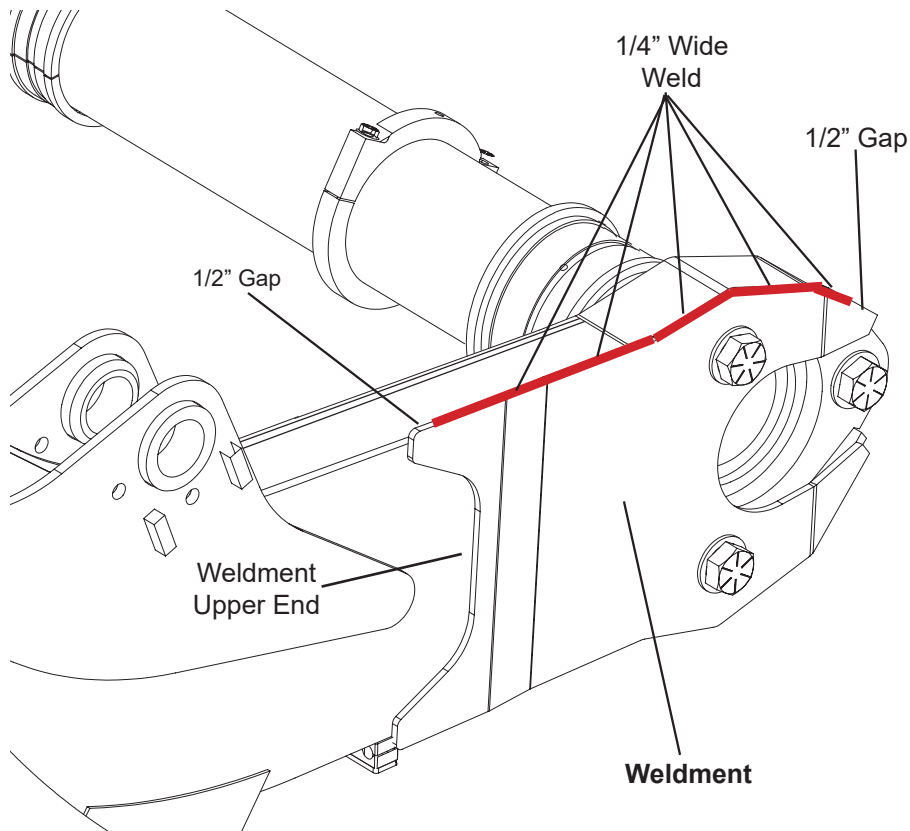

Figure 10
20. Using a 1/4" wide weld, weld the remaining edge of the arm base weldment Figure 10.